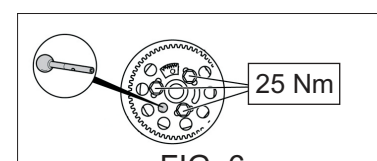

FIG. 6
- ⑨ *TDi engines*: Remove camshaft lock pin and tighten the camshaft bolts (25 Nm) [FIG. 6].